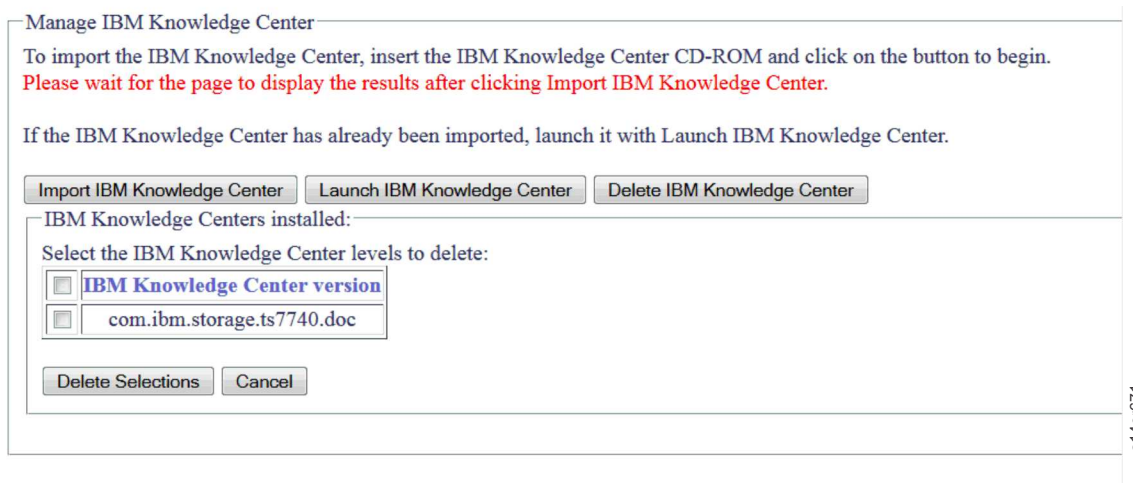

Figure 252. IBM Knowledge Center versions installed
7. To delete a level of IBM Knowledge Center, from the Manage IBM Knowledge Center screen, click **Delete IBM Knowledge Center**. If there is at least one level of IBM Knowledge Center installed it will be displayed in a box similar to the one shown in Figure 252.